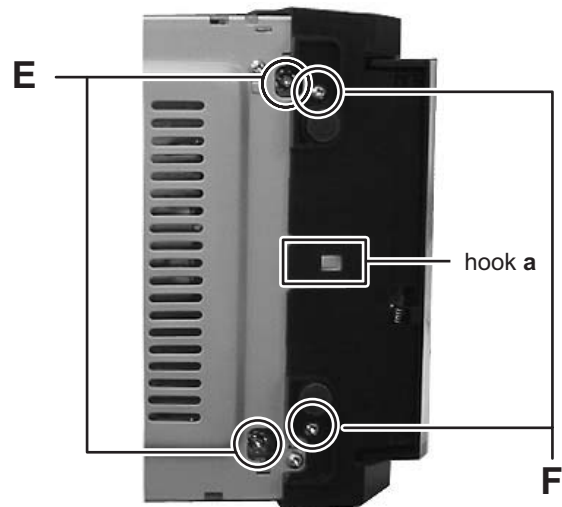

Fig.5
- (5) Remove the two screws **E** and two screws **F** attaching the front panel. (See Fig.5)
- (6) Remove the hook **a**. (See Fig.5)